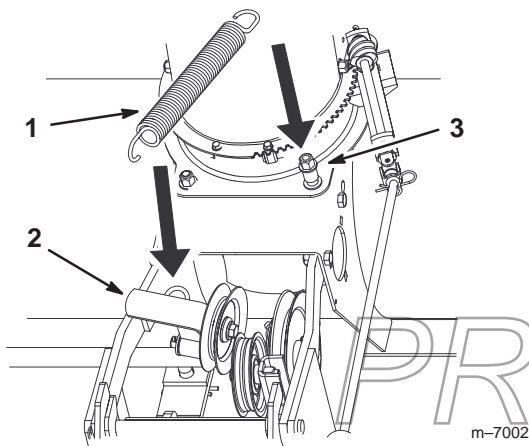

Figure 22
- Hook one end of the belt spring onto the snowthrower spring peg (Fig. 22).
- Hook the other end of the spring into the belt idler arm (fig. 22).